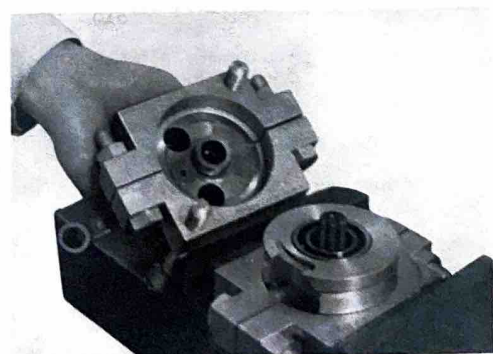

Fig. 4-17-9
- 5) Fig. 4-17-9 shows the disassembled crankshaft ass'y. To remove the crank cover and bearing, use a press. Note that the ignition side was removed. This allows free made center spline to protrude and provide an easier working surface for the press.